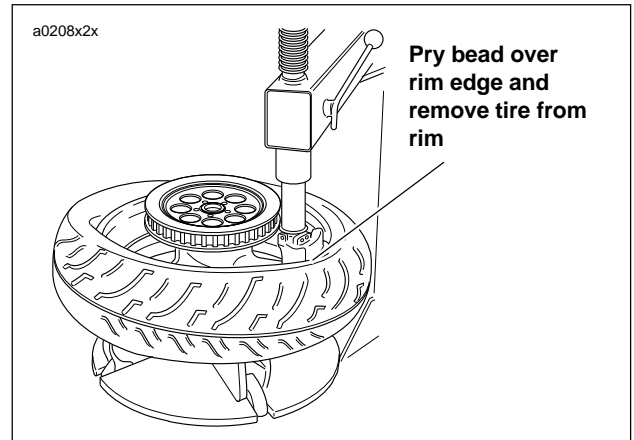

Figure 2-21. Starting Tire Off Rim (Typical)
6. See Figure 2-21. Push lower bead into rim well on one side and insert tire tool underneath bead from opposite side. Pry bead over rim edge. Remove tire from rim.